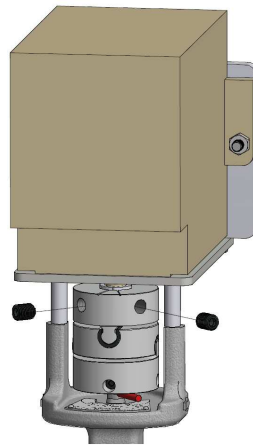

Figure 6: Clamp the Coupling Bushing
6. Finally, thread the (2) 3/8"-24 x 1/2" socket set screws into the two threaded holes in the top piece of the coupling as shown in Figure 6 below. Using the 3/16" hex key, tighten these set screws to securely clamp the coupling bushing around the splined actuator shaft. Ensure that the actuator shaft to valve shaft orientation is correct before tightening the set screws.